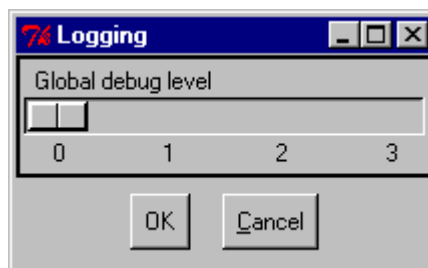

Figure 5-12. Global Debug Dialog Box
2. *Click* *Verbose. . .* to change the verbose output level. *Click* *Debug. . .* to change the debug output level. The Verbose Setting dialog box and the Debug setting dialog box are identical except for their titles and effects. The dialog appropriate to your selection appears. Figure 5-12 shows the Logging dialog box used for setting the verbose and debug levels: